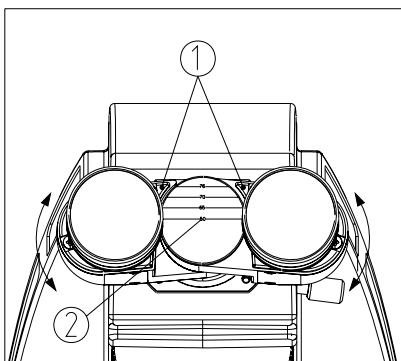

Fig12
“。”① on the eyepiece base points to the scale② of interocular indication, which means the value of interocular distance (see Fig. 12).